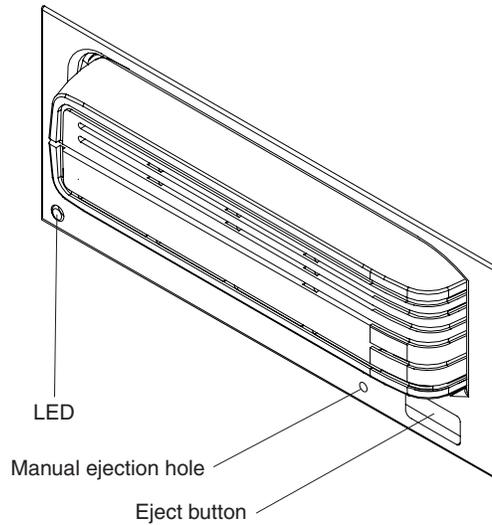

Figure 6. Drive carrier front panel components
- Press the eject button on the drive carrier (see Figure 6 on page 10) for at least 0.5 second. If the cartridge is not ejected, the LED (see Figure 6 on page 10) flashes five times to indicate that either the operating system or the GoVault Drive application is preventing the cartridge from being ejected.
- Use the manual ejection hole (see Figure 6 on page 10) to eject the cartridge in case of a power loss, or when the other methods of cartridge ejection fail. To eject a cartridge, insert a straightened paper clip or similar object into the manual ejection hole until the cartridge is ejected.